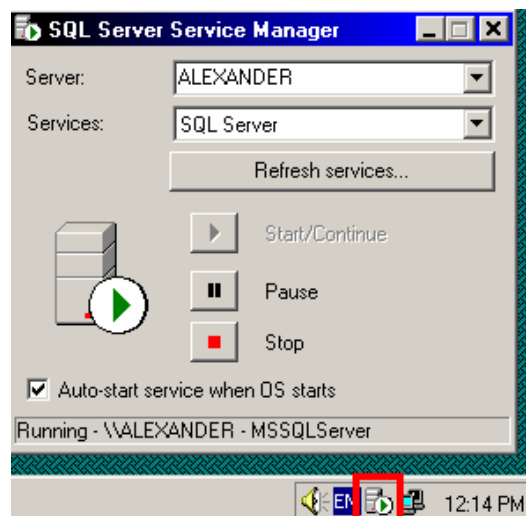

Figure D.9. Auto-Start Enabled for SQL Service
1. Double click on the SQL Server icon in the system tray to open the SQL Server Service Manager, as shown in **Figure D.9**.